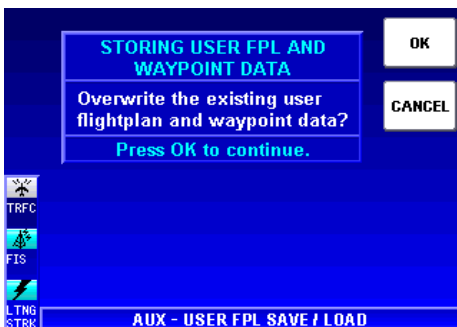

Figure 1-195
9. Figure 1-195 will be displayed indicating data on the datacard will be overwritten.
NOTE: In units that do not contain the internal GPS, references to flight plans will not be displayed. For example the title of the window in Figure 1-195 will be "STORING USER WAYPOINT DATA".